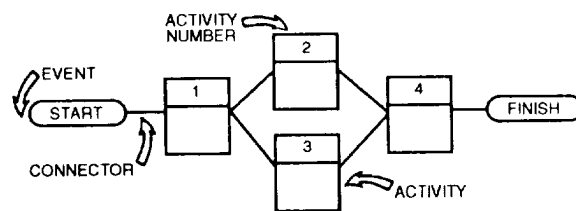

Figure 9-8.—Precedence diagram.
Network procedures are based upon a system that identifies and schedules key events into precedence-related patterns. Since the events are interdependent, proper arrangement helps in monitoring the independent activities and in evaluating project progress. The basic concept is known as the critical path method (CPM). Because the CPM places great emphasis upon task accomplishment, a means of activity identification must be established to track the progress of an activity. The method currently in use is the activity-on-node precedence diagramming method (PDM), where a node is simply the graphic representation of an activity. An example of this is shown in figure 9-8.
**MILESTONE EVENTS.**— The network may also contain certain precise, definable points in time, called events. Examples of events are the start and finish of the project as a whole. Events have no duration and are represented by oval boxes in a network, as shown in figure 9-8.
The rule governing the drawing of a network is that the start of an activity must be linked to the ends of all completed activities before that start may take place. Activities taking place at the same time are not linked in any way. In figure 9-8, both Activity 2 and Activity 3 start as soon as Activity 1 is complete. Activity 4 requires the completion of both Activities 2 and 3 before it may start.